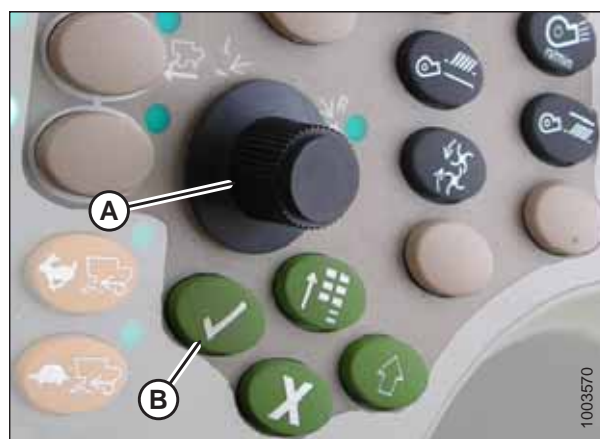

Figure 3.453: John Deere Combine Control Console
7. Select HEADER in box (A) by scrolling down to the box using the scroll knob, and then pressing the check mark button (knob and button are shown in Figure 3.453, page 267).
8. Scroll down to the lower right icon that resembles an arrow in a diamond (B) and press the check mark button to select it.